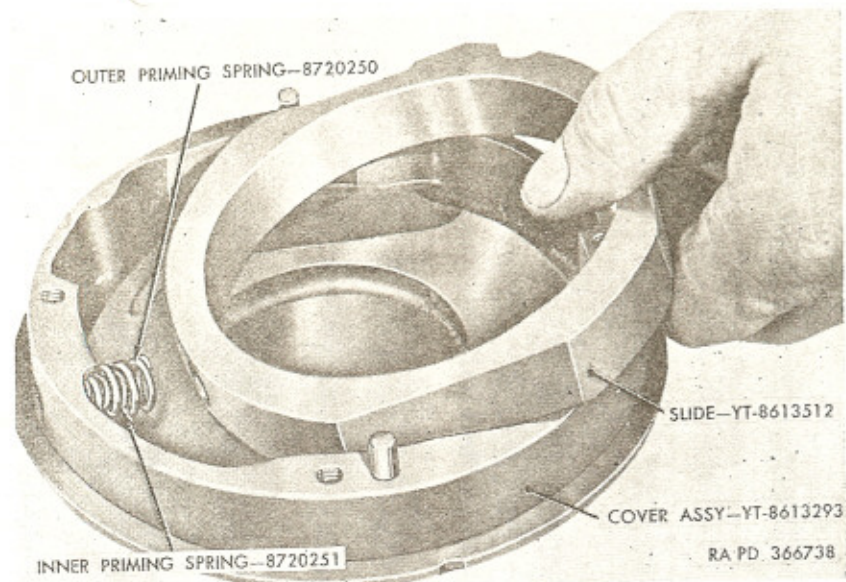

Figure 89. Removing or installing oil pump slide.
g. Push pump slide (G) toward priming springs; then lift slide out of pump cover (fig. 89). Remove inner and outer priming springs (J and K) from cover.
h. Remove oil seal ring (A) from ring groove in cover.